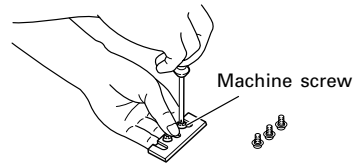

Fig. 11
- (1) After attaching the back metal to the cutter blade, temporarily fasten them together with machine screws, as shown in Fig. 11